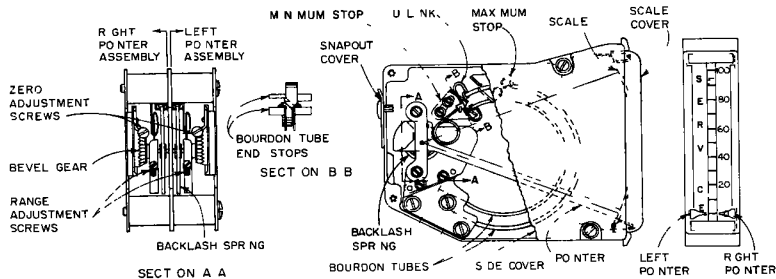

FIGURE 10 Vertical Gage Unit Adjustments
- a Apply pressure to gage equivalent to first major scale division above 0% scale. If pointer does not read correctly, turn zero adjustment screw (Figure 10) until desired reading is obtained.
- b Apply pressure to gage equivalent to first major scale division below 100% scale. If pointer does not read correctly, turn range adjustment screw (Figure 10) until desired reading is obtained.
7 Apply 2 psig to Bourdon tube (pointer will read slightly below minimum scale mark). Loosen minimum stop screws (Figure 10) and position minimum stop next to Bourdon tube end stop; tighten screws.